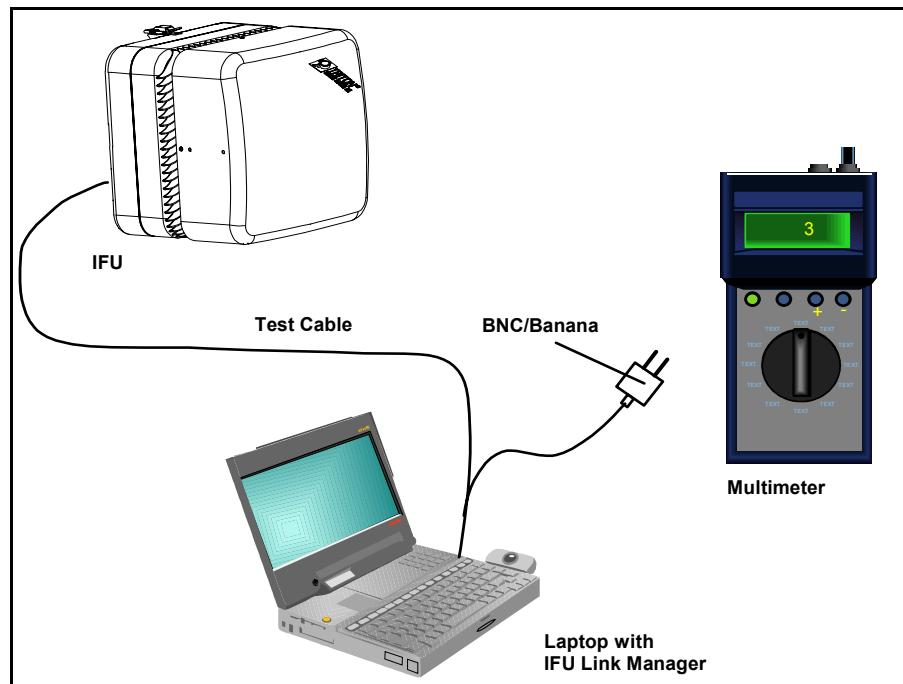

Figure 4-2. Alignment Test Setup
- 7** Connect the IFU test cable to the test port of the near-end IFU (see Figure 4-2).